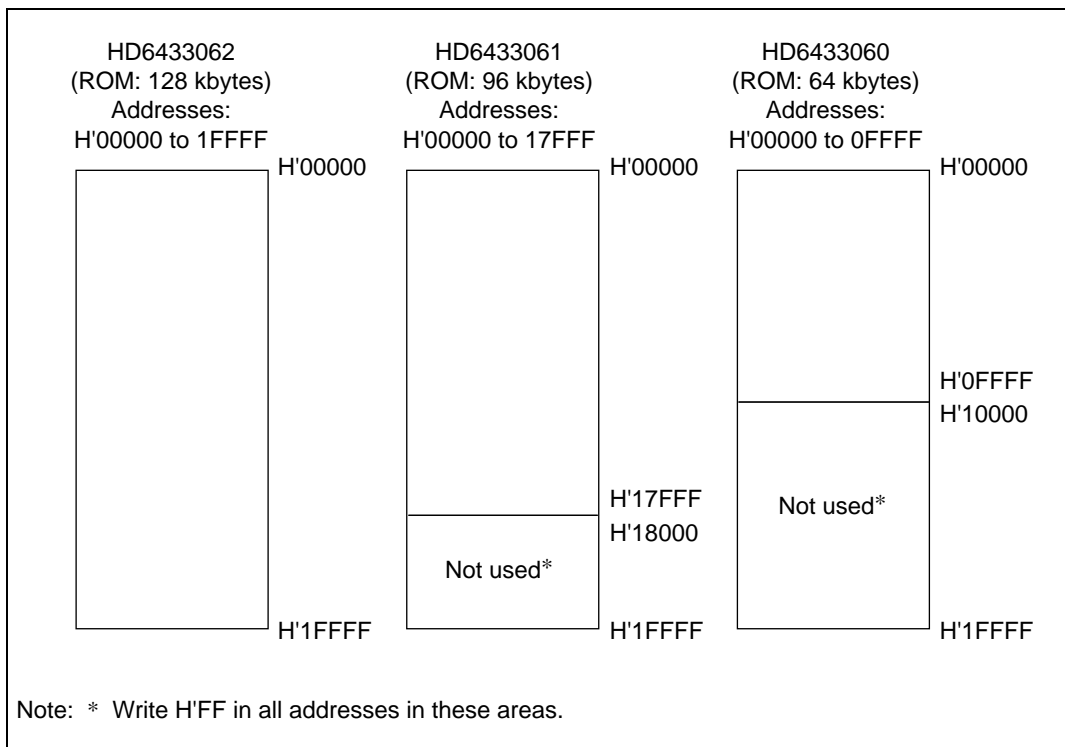

Figure 17.20 Masked ROM Addresses and Data
2. Fill all unused addresses with H'FF as shown in figure 17.20 to make the ROM data size 128-kbytes for the H8/3062, H8/3061, and H8/3060 masked ROM versions, which incorporate different sizes of ROM. This applies to ordering by means of an EPROM and by means of data transmission.